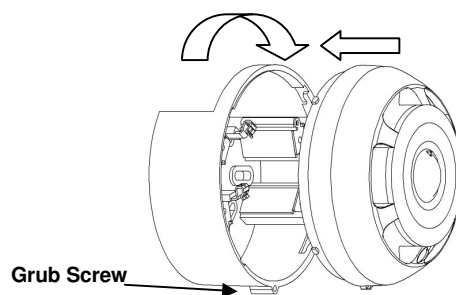

Figure 4
5. Fit the Head to the base in a Bayonet motion as shown in Figure 4. Unwind the Grub Screw in the base to Lock the head in place.